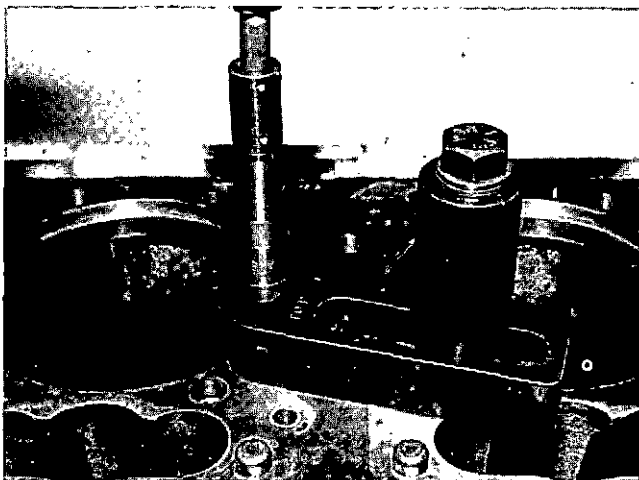

Fig. 1-1-21, V40130. Reaming eroded water hole
1. Insert hold-down adapter of ST-1010 into cylinder head capscrew hole. Fig. 1-1-21.